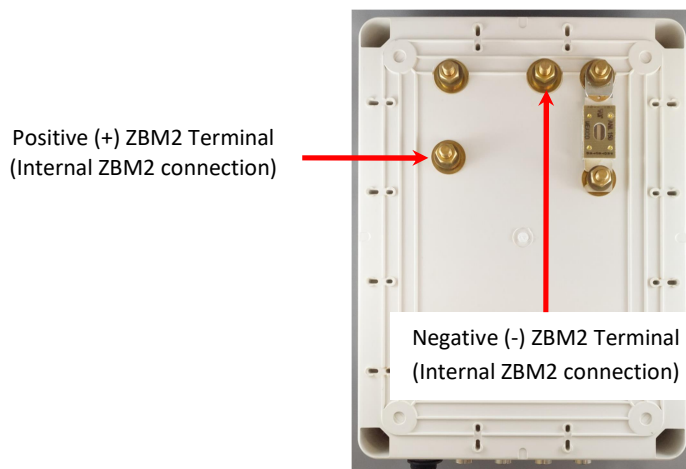

Figure 24: Positive and negative ZBM2 terminals
Step 3 Using a multimeter, check that the ZBM2 is fully discharged by ensuring the voltage across the positive and negative ZBM2 terminals shown in Figure 24 (not the bus terminals) is 0V when disconnected from any bus.